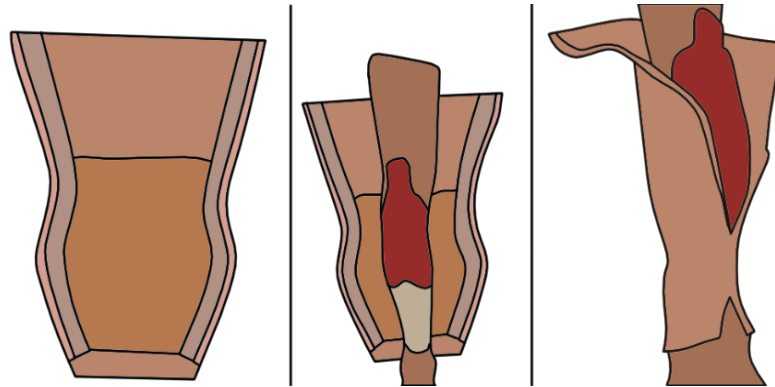

Figure 15. Application of the Skin Layer
- a. Place the housing assembly through the top end of the skin. Ensure that the outer skin layer is on all the way by lining up the superior edge of the skin layer with the upper edge of the housing. The zipper should be on the posterior of the calf muscle and zip downwards (**Figure 15**).